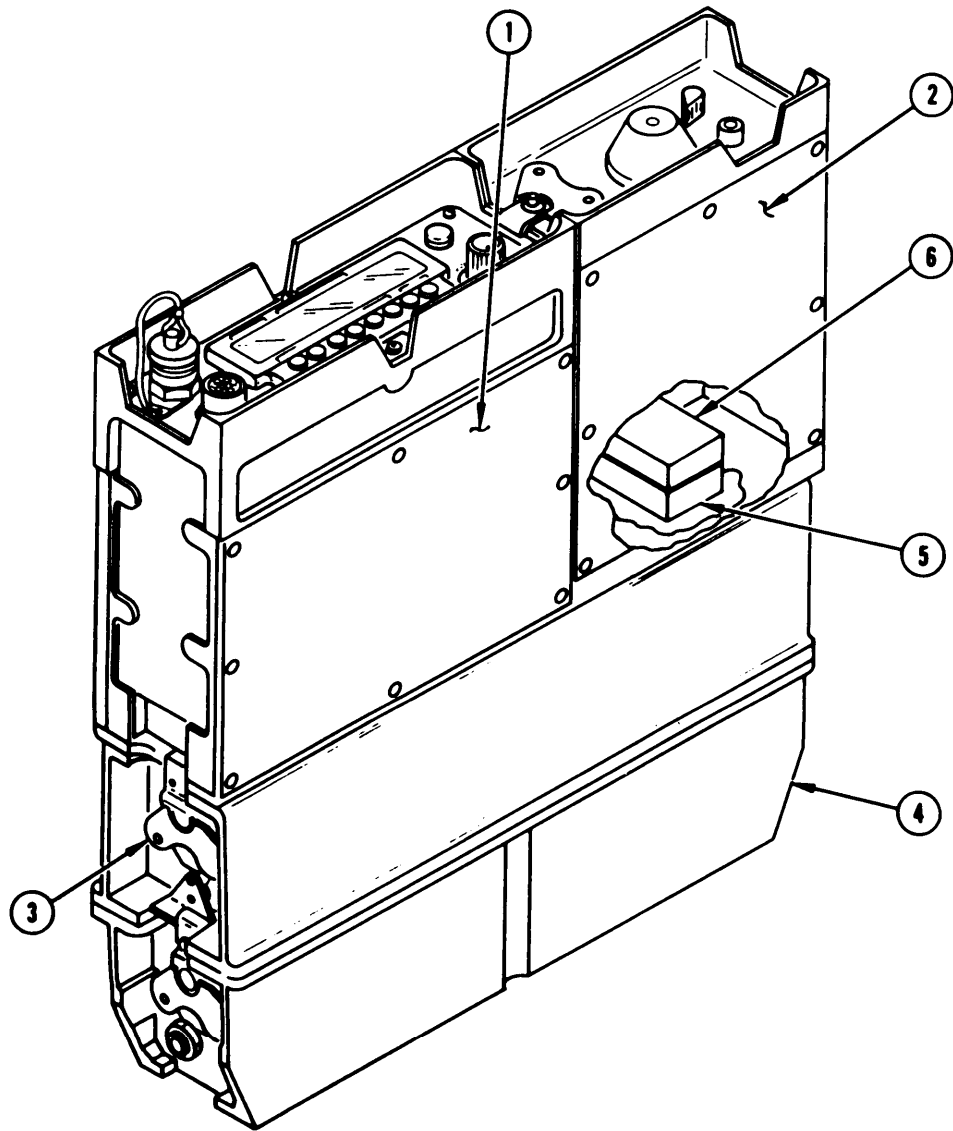

Figure 5-3. Battery Pack Removal and Replacement
**BATTERY PACK REMOVAL AND REPLACEMENT (1 of 2), fig 5-3**